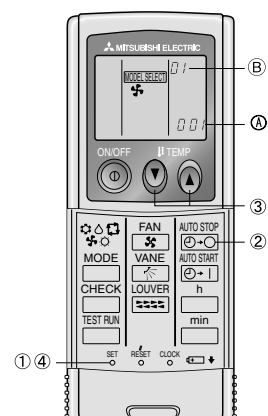

Fig. 6-7
4) Automatic fan speed setting (For wireless remote controller) (Fig. 6-7)